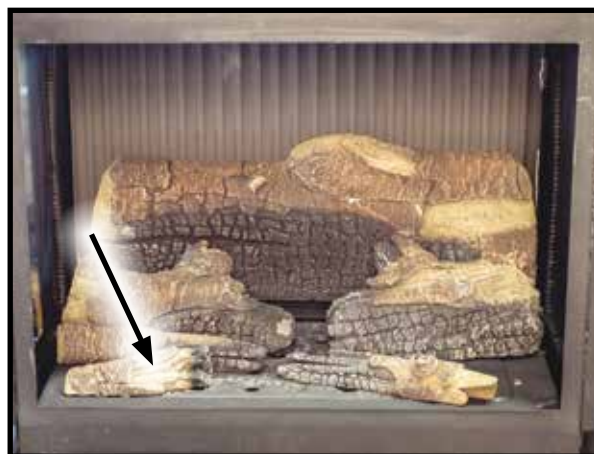

Figure 53. Log #1 Placement
4. Next, place Log #1 in front of Log #3 on the left. Line up the bottom holes with the pins on the burner pan (Figure 53).